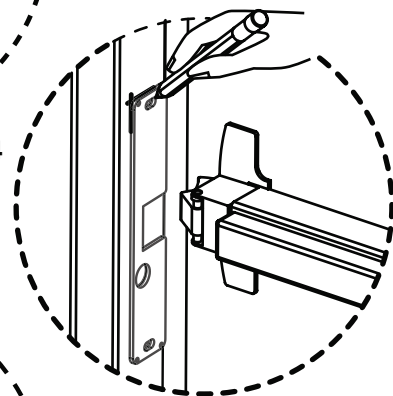

Figure 5
11. Using the provided sealed crimp connectors, terminate the quick connect socket assembly to the power wires. See Figure 5 (NOTE: The 4800F is not polarized)